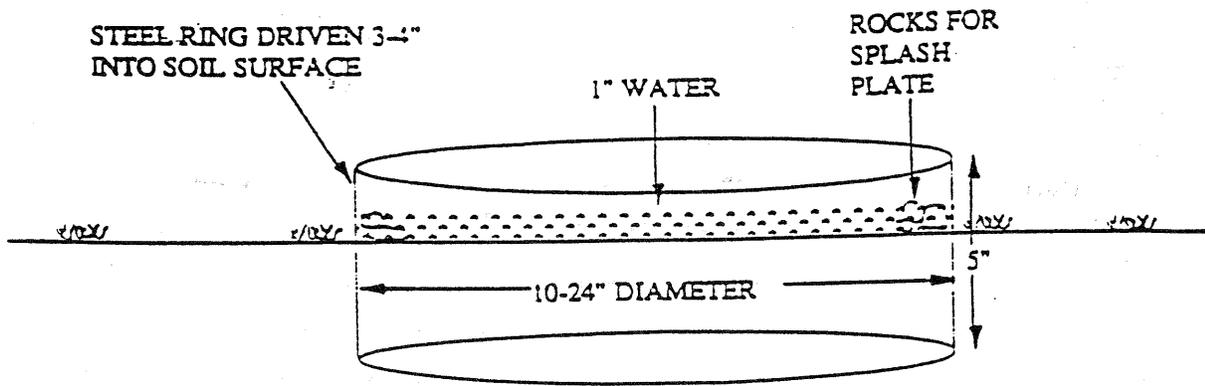

FIGURE C.2
- a. Carefully drive ten-twenty-four inch diameter steel ring three-quarter inches into the soil surface as shown in Figure C.2.